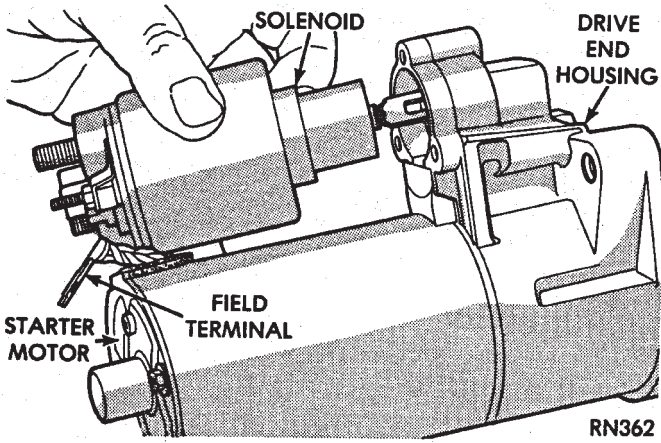

Fig. 18 Solenoid
- (1) Remove solenoid assembly (Fig. 18).